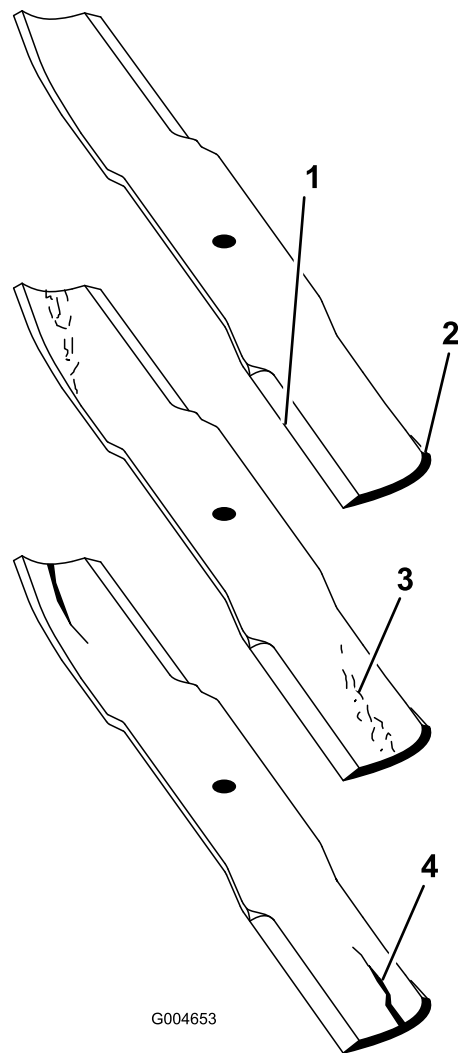

Figure 73
1. Inspect the cutting edges (Figure 73). If the edges are not sharp or have nicks, remove and sharpen the blades. Refer to Sharpening the Blades.
2. Inspect the blades, especially the curved area (Figure 73). If you notice any damage, wear, or a slot forming in this area (Figure 73), immediately install a new blade.